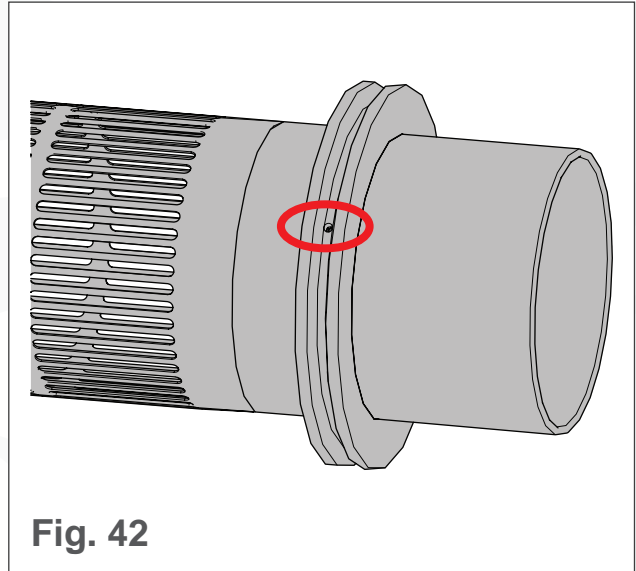

Fig. 42
4. Ensure the set screws on the widest part of the tumbler are inside the grooves (see Fig. 42).